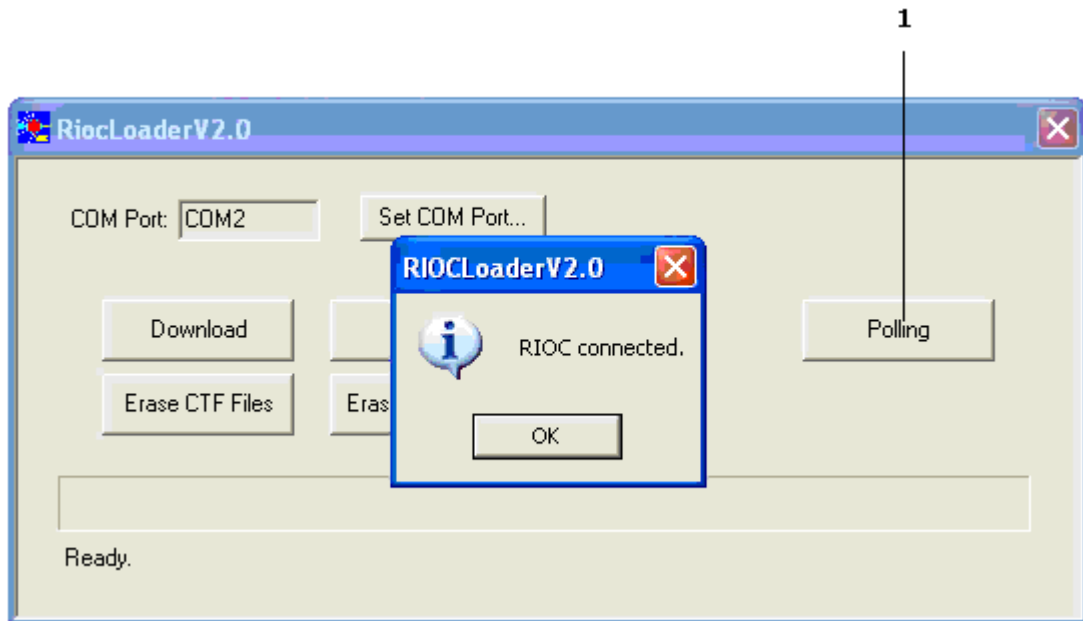

Figure 2
- (7) Open the right avionics-bay servicing-door, F17.
- (8) Open, then close the circuit breaker RIOCL 3 (B16) in the avionics bay to set the RIOCL 3 off then on again.
- (9) Wait 20 seconds, then select the Polling button (Ref. Fig 2, Item 1).
- (10) Make sure that the “RIOCL connected” message is shown on the RIOCL Loader V2.0 dialog box (Ref. Fig 2), then click OK.